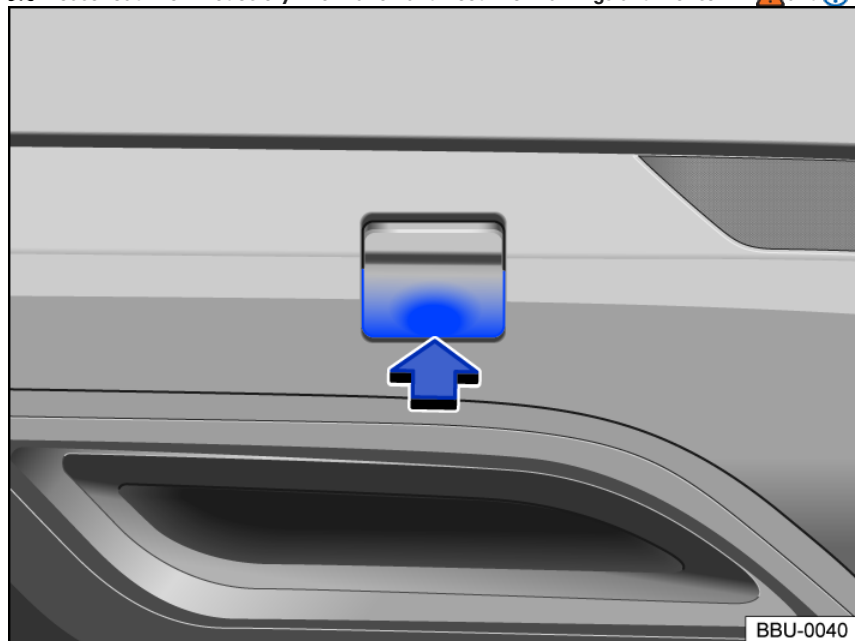

Fig. 146 In the right rear bumper: Cover for the towing eye mount.
- Press on the lower section of the cover in the direction of the arrow to release the catch on the cover fig. 146.